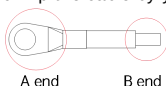

Fig. 5 Grounding terminal connection
(5) Grounding: MV810-CANopen01 must be grounded during wiring, as shown in Fig. 5. You need to prepare and crimp the cable by yourself.